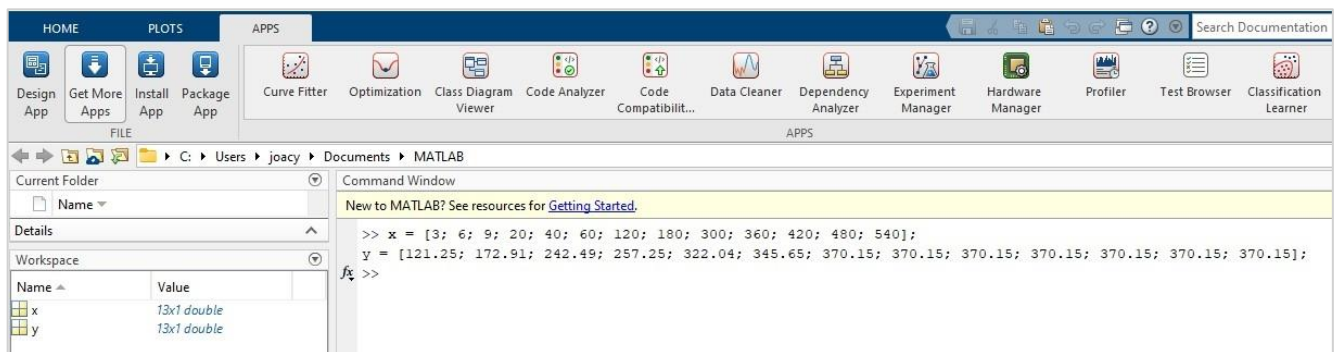

Figure 10S. Matlab R2023b interface layout displaying the curve fitter tool in the apps tab
2. To open the curve fitter tool, simply type cftool in the command window and press enter or click the curve fitter button in the apps tab (Figure 10S).